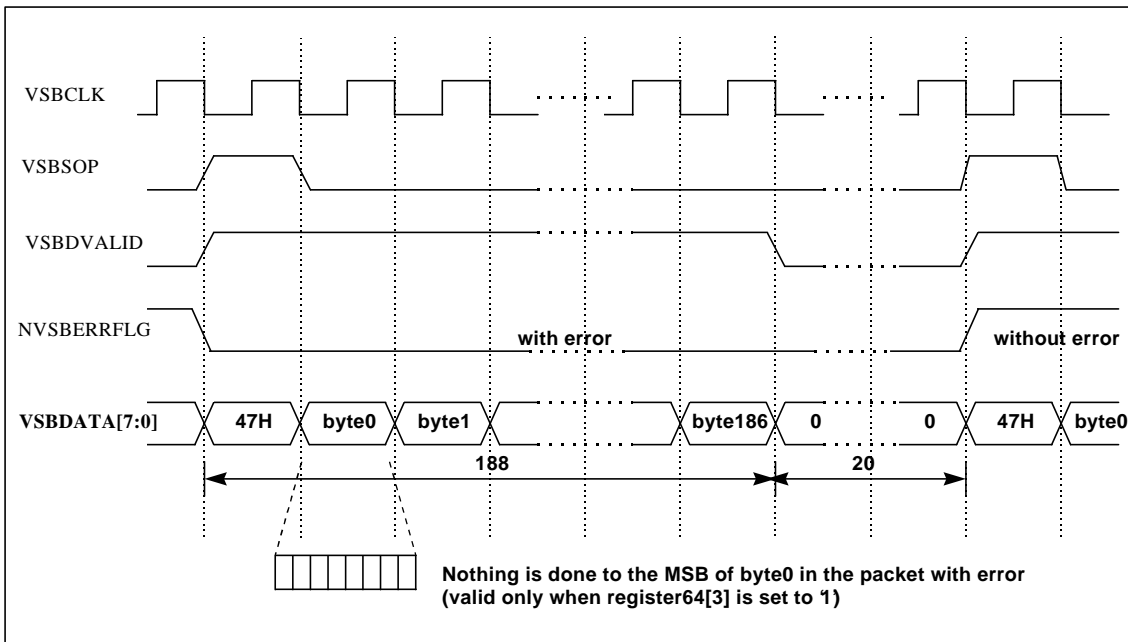

Figure 6.6.10 I/F to Transport Demultiplexer when Register64[2](Errorflag_ins) is set to '0'
1) nothing is done at the MSB of the first data byte although the data segment has uncorrected errors. See Fig. 6.6.10.